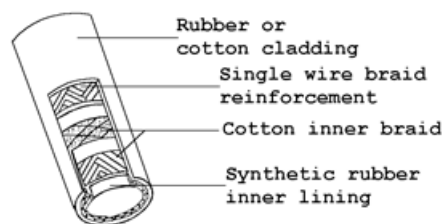

FIG 3.
- Single wire braid for higher pressures. (Fig 3)